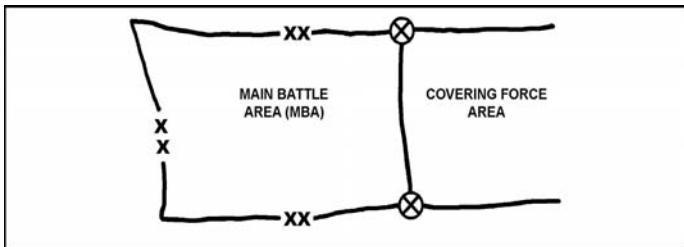

Figure 071-332-5000-17. Organizing the defensive battlefield
- k. Show the defended areas. If an area is occupied and the defense of the area is prepared, enclose the area with a line (including the size symbol of the defending unit), and orient the closed side of the symbol toward the most likely enemy threat. If desired, enter the military symbols of the unit in the center of the enclosed area. Figure 071-332-5000-18 shows a defensive area for 2d Plt, C Co, 1st Bn, 6th Inf, and a proposed defensive area for B Co, 3d Bn, 52d Inf.